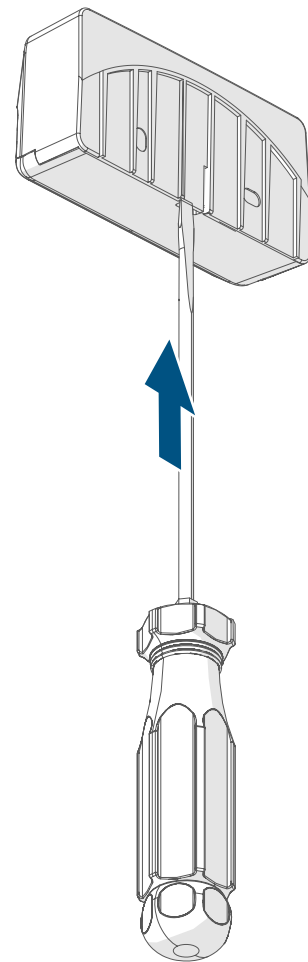

Figure 2
- Press the lug on the back side of the wall bracket (A) slightly to the rear (using a flat-blade screwdriver, if necessary) to loosen the electronic unit (C) from the wall bracket (*→see figure 2*).
- Press the lug on the back side of the wall bracket (A) slightly to the rear (using a flat-blade screwdriver, if necessary) to loosen the electronic unit (C) from the wall bracket (→see figure 2).
- Remove the empty battery from the battery compartment (D).